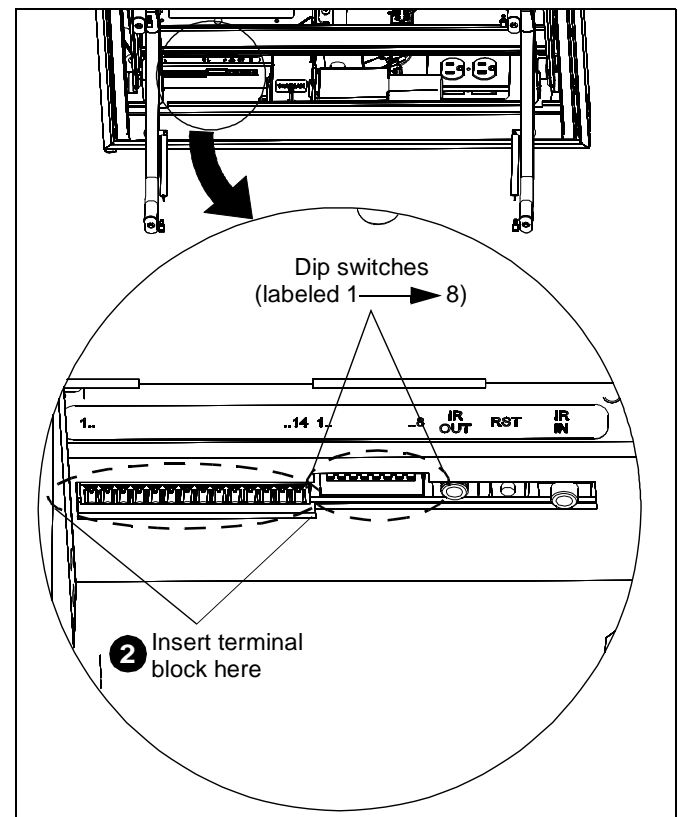

Figure 24
2. Insert terminal block (R) into SL220. (See Figure 24)
3. Flip DIP switch #8 (See Figure 24) to activate the Current Sense mode.